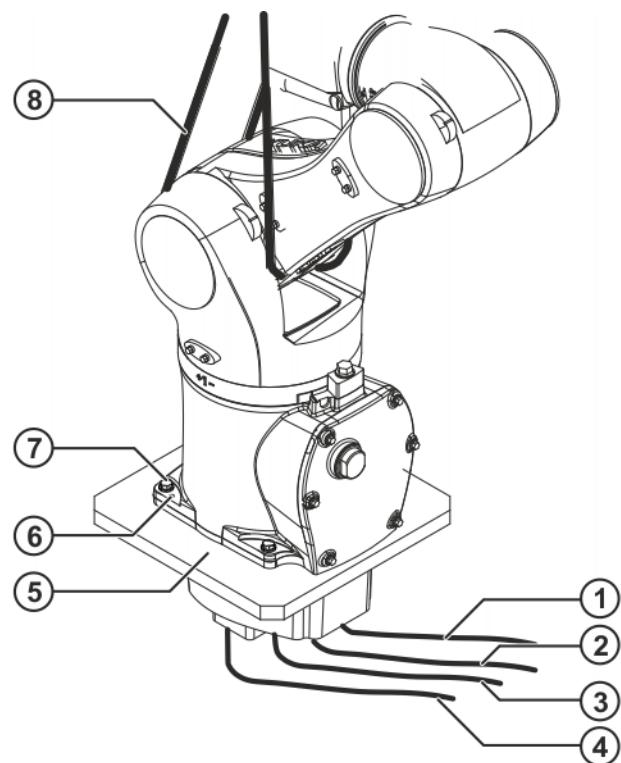

Fig. 11-2: Removing a floor-mounted robot
4. Secure the robot by activating the E-STOP device and then shut down the robot (>>>> Fig. 11-2 ).